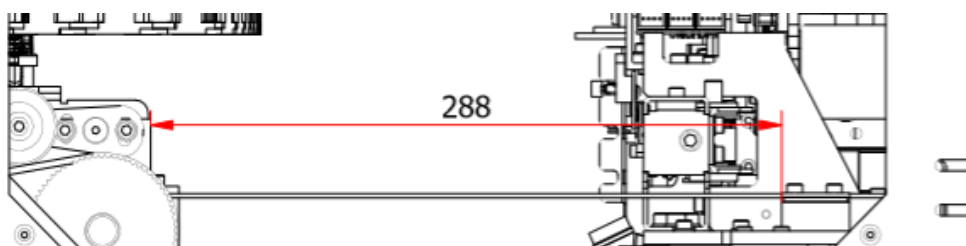
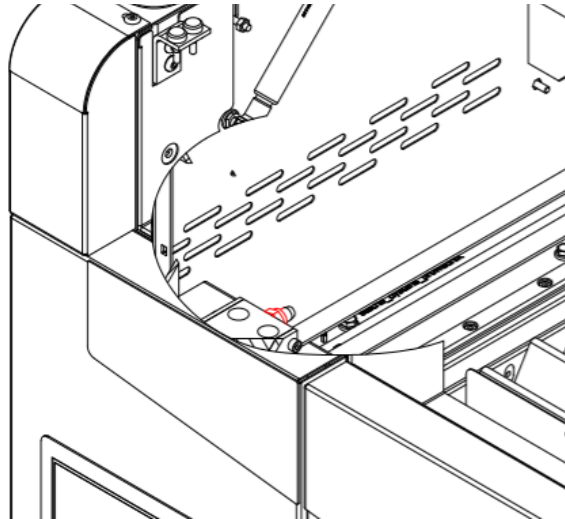

Fig. 102 Gate position for measuring belt tension
Fig. 103 Adjustment screw for the left Y-axis belt
- a) Move the X axis gate to the position shown in Fig. 102.
- c) Adjust the belt tension by tightening (to increase belt tension) or loosening (to decrease belt tension) the tensioner adjusting screw. The adjusting nuts are located just below the cover under the top cover as shown in Fig. 103 and 104. The adjustment values are shown in Table 5. They vary depending on whether you adjust a new or used drive belt. Belt tension should be measured with a belt tension meter using the oscillation frequency. The measurement should be made in the middle of the top belt visible in the inspection openings. The gate position during measurement must be set according to the guidelines in Fig. 102.